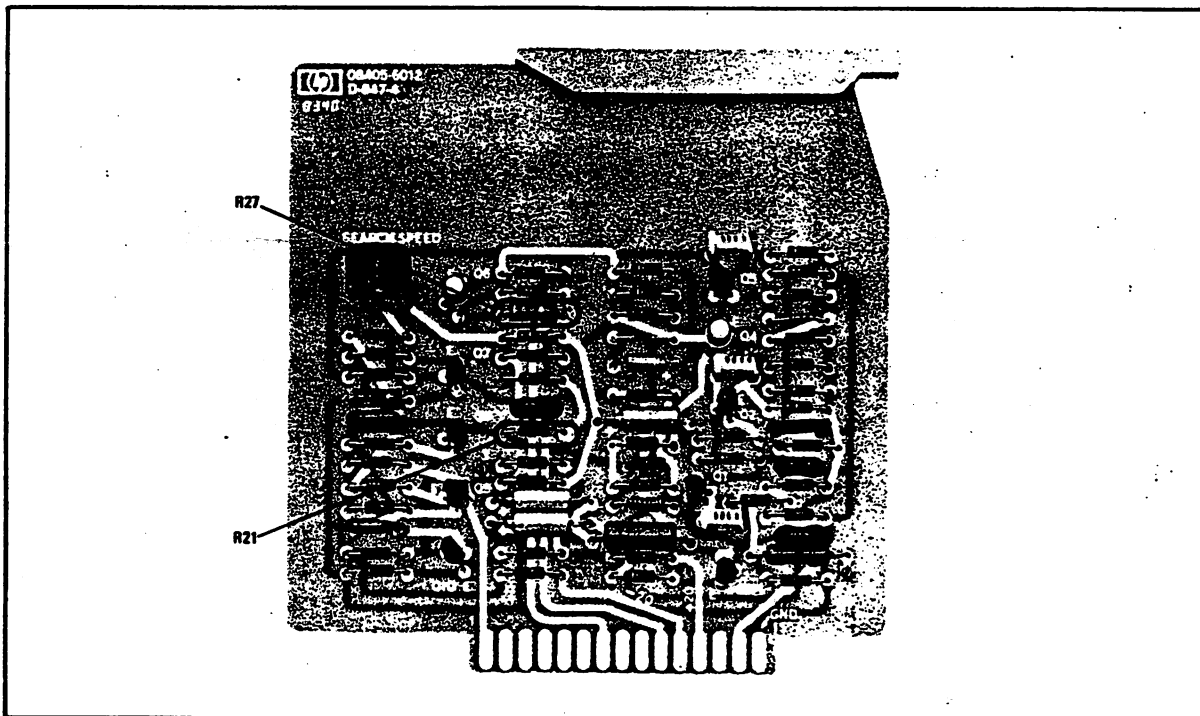

Figure 1. A12 Search Assembly Component Location
3. Locate A12R27. (Refer to Figure 1.) If the value of R27 is not $1.8\text{k}\Omega$, replace it with the $1.8\text{k}\Omega$ resistor (HP Part Number: 0868-1825) supplied with the kit.
4. Locate and remove A12R21. (Refer to Figure 1.) Insert and solder the two Single Post Connectors (HP Part Number: 0360-0124), supplied with the kit, in the vacant holes. Attach and solder the $9.09\text{ k}\Omega$ resistor (HP Part Number: 0757-0288) and $10\ \mu\text{F}$ capacitor (HP Part Number: 0280-2811), supplied with the kit, in parallel across the two posts. The capacitor is polarized, and must be installed with the "+"- side to the right.